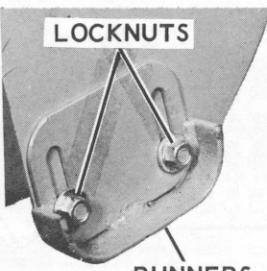

Figure 1
a. An adjustable runner is provided on each end of the blower housing (figure 1). Raising or lowering these runners controls the distance the scraper blade is held above the surface being plowed. Adjustment is accomplished by loosening the two nuts on each of the runners to the desired position and retightening the nuts. When plowing on concrete or other hard surfaces, these runners should be adjusted so that they are approximately 1/8-inch below the scraper blade. When plowing gravel sideways or other gravel areas, adjust the runners so that they are 1-1/4-inch below the scraper blade.